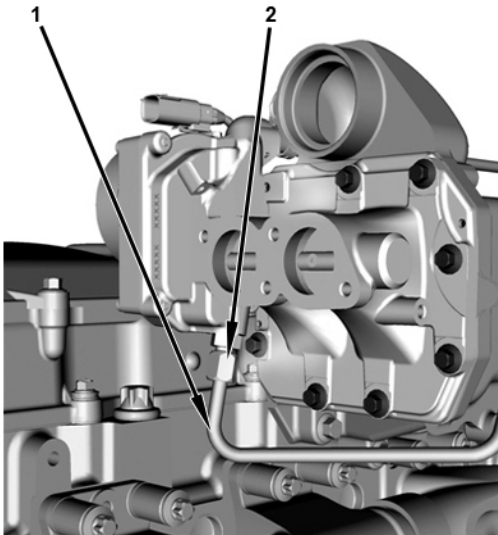

Figure 27 EGR Valve Coolant Supply Tube
5. Install the EGR valve coolant supply tube (1) and torque the coolant supply tube nut (2) to 18 lb-ft (24 N•m) (Figure 27).